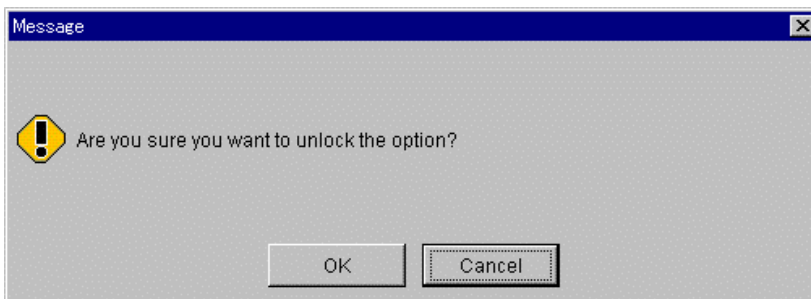

Figure 4.3 SNMP Unlock Confirmation Message
6. A screen appears, requesting a confirmation to unlock the SNMP option (see Figure 4.3). Click the **OK** button.